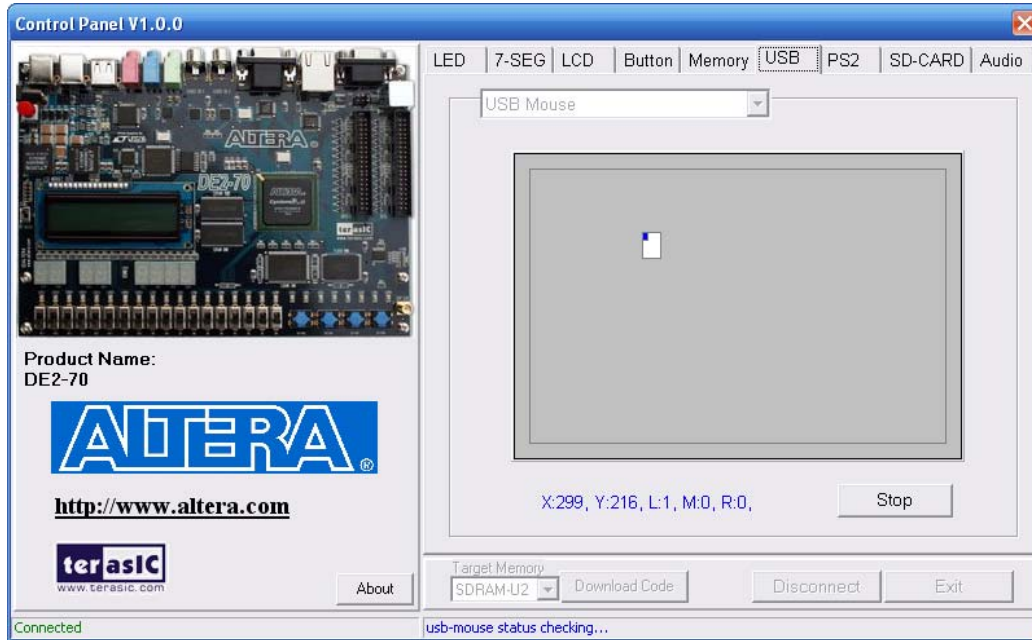

Figure 3.8. USB Mouse Monitoring Tool.
1. Choosing the **USB** tab leads to the window in Figure 3.8.